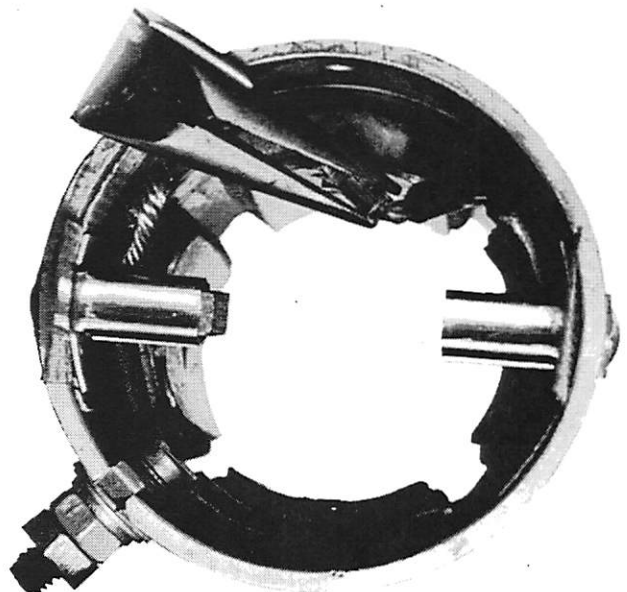

Figure 4. Crimping Clip
3. Place brush lead into clip and crimp clip with lead inside it to form good mechanical connection. (Figure 4)